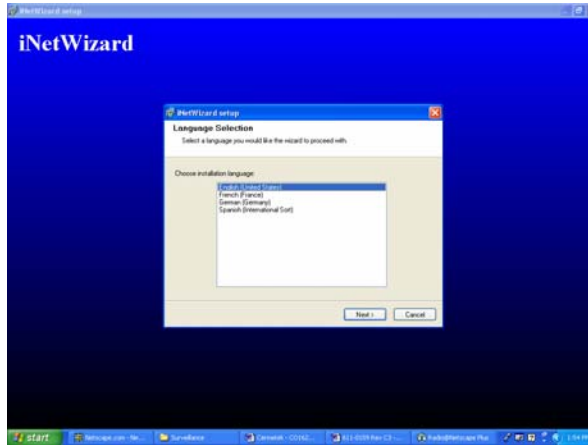

Figure 40A. Opening window for the iNetWizard® installer. Single Click on the NEXT button to proceed.
- Step 2. The setup program will progress automatically. Refer to images in Figure 40A-40K.